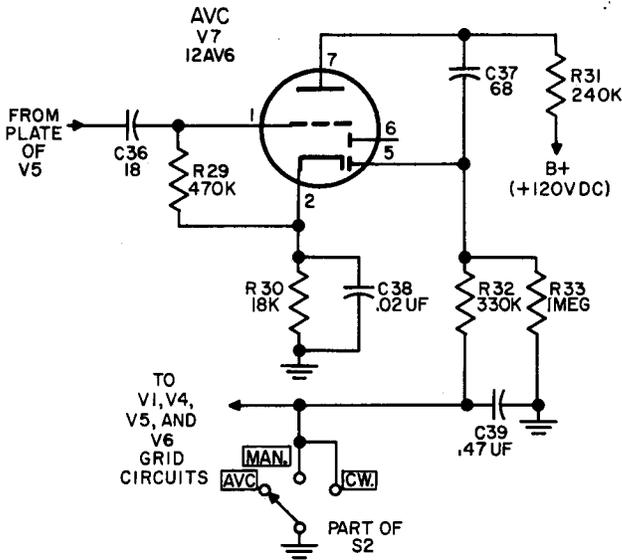
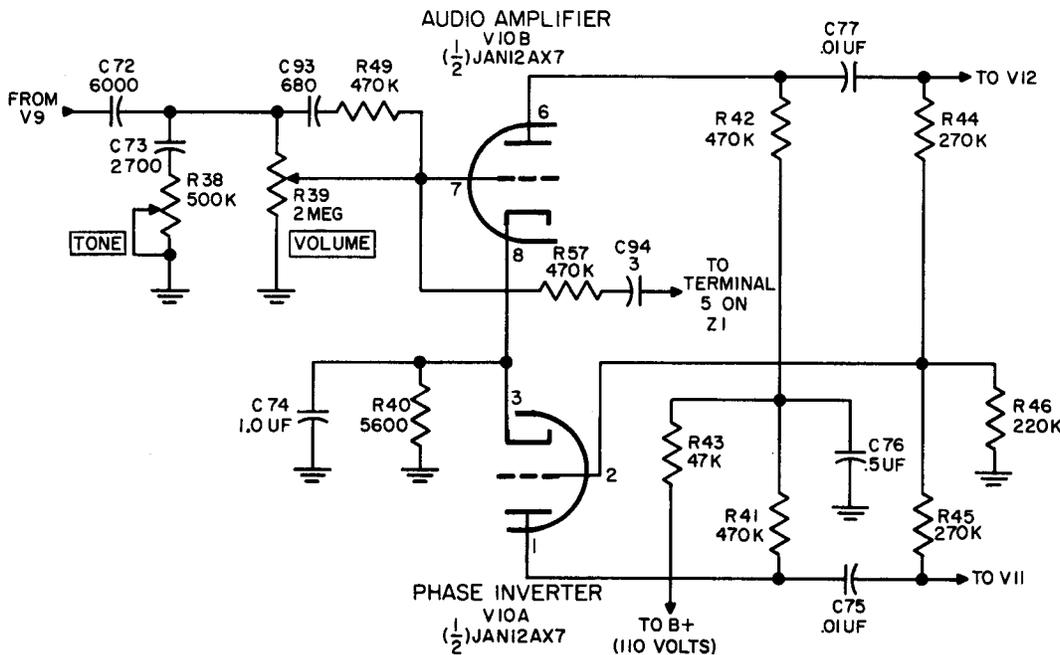

Figure 2-10. AVC Simplified Schematic Diagram
Figure 2-11. Audio Amplifier and Phase Inverter Simplified Schematic Diagram
i. AUTOMATIC VOLUME CONTROL. (Figure 2-10)
(1) A nearly constant signal level is maintained in the receiver output by the use of a delayed AVC (automatic volume control) circuit. The developed AVC bias is proportional in amplitude to the incoming signal strength. The delayed action of this circuit prevents attenuating the very weak signals, thereby retaining maximum sensitivity of the receiver.
(2) The signal from 2nd i-f amplifier V5 is coupled through C36 to the grid of V7 (a 12AV6, double-diode triode tube). The triode section of this tube amplifies the i-f signal and isolates the diode from V5 to prevent loading of that stage. The amplified i-f signal developed across plate load resistor R31 is applied to the AVC diode plate through coupling capacitor C37. The diode plate (pin 5) will pass current when the amplitude of this i-f voltage exceeds the bias voltage developed across cathode resistor R30 and its bypass capacitor C38. When the diode conducts, a voltage negative with respect to B- ground is developed across the AVC detector load resistor R33. The i-f component is bypassed to ground through resistor R32 and capacitor C39 to provide a d-c AVC bias voltage on the grid circuits of V1, V4, V5 and V6. The AVC voltage is shorted to B- ground when switch S2 is in the MAN. or CW. position.
j. AUDIO AMPLIFIER AND PHASE INVERTER. (Figure 2-11)
(1) The single-ended output of the detector stage must be converted to push-pull to properly drive the push-pull audio output tubes. Push-pull output is obtained with resistance coupling by using a phase inverter. Tube V10, a dual triode, type 12AX7, is an audio voltage amplifier and a phase inverter.
(2) The signal from the detector is applied to the VOLUME control R39 through coupling capacitor C72. The variable arm on the VOLUME control selects the magnitude of signal being applied to the control grid of audio amplifier V10B. Capacitor C73 and TONE control R38 provide a network that controls the attenuation of